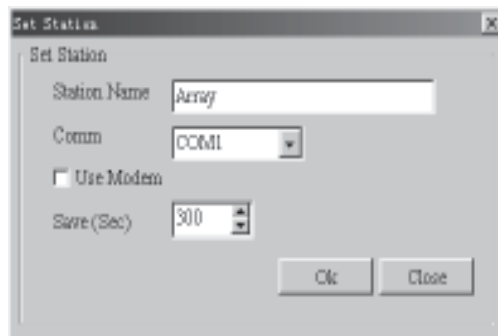
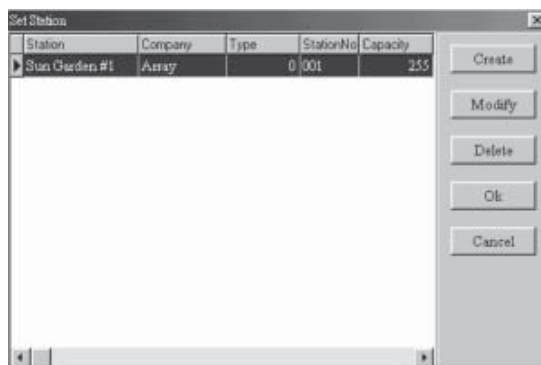

Fig. 4-3 Station Setup Dialogue Frame
Fig. 4-4 Dialogue Frame for Definition and Modification of the Station name and Driving Methods
3. If you design a station for the first time, please click ;°Append;±in the right of Fig. 4-2 to enter station setup dialogue frame as shown in Fig.4-3. If your system already has a designed station, only click ;°Modify” to modify the existing station and enter station setup dialogue frame. Or click;°Delete;±first to delete the existing station and then click ;°Append;± to enter station setup design frame.
4. In the dialogue frame as shown in Fig. 4-3, the Station Name and Comm must be entered and cannot be use repeatedly. When editing is completed, click OK and finish the setup of the Station Name and the Communcation Methods, then the tableau as shown in Fig. 4-4 will appear.